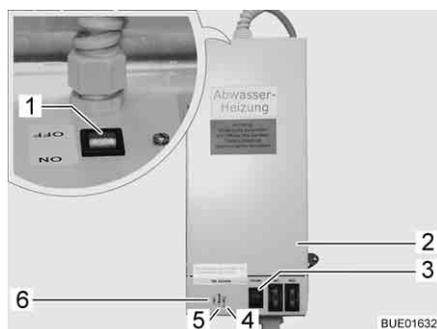

Fig. 250 Transformer with control unit
The 230 V AC/12 V DC transformer (Fig. 250,2) is installed in the wardrobe or in the storage area beneath the seating group, depending on the model.
- Indicator lamp (Fig. 250,5) lights up in green: Regulator in operation.
- Indicator lamps (Fig. 250,4 and 6) light up in red: Waste water pipes are warmed.
A test button (Fig. 250,3) is integrated in the housing with which the control unit can be operated for a short time. By pressing the test button, the function of the warming unit can be tested, even if the ambient temperature is above 5 °C.
- Turn switch (Fig. 250,1) on the transformer (Fig. 250,2) to "ON".
- Turn switch (Fig. 250,1) on the transformer (Fig. 250,2) to "OFF".